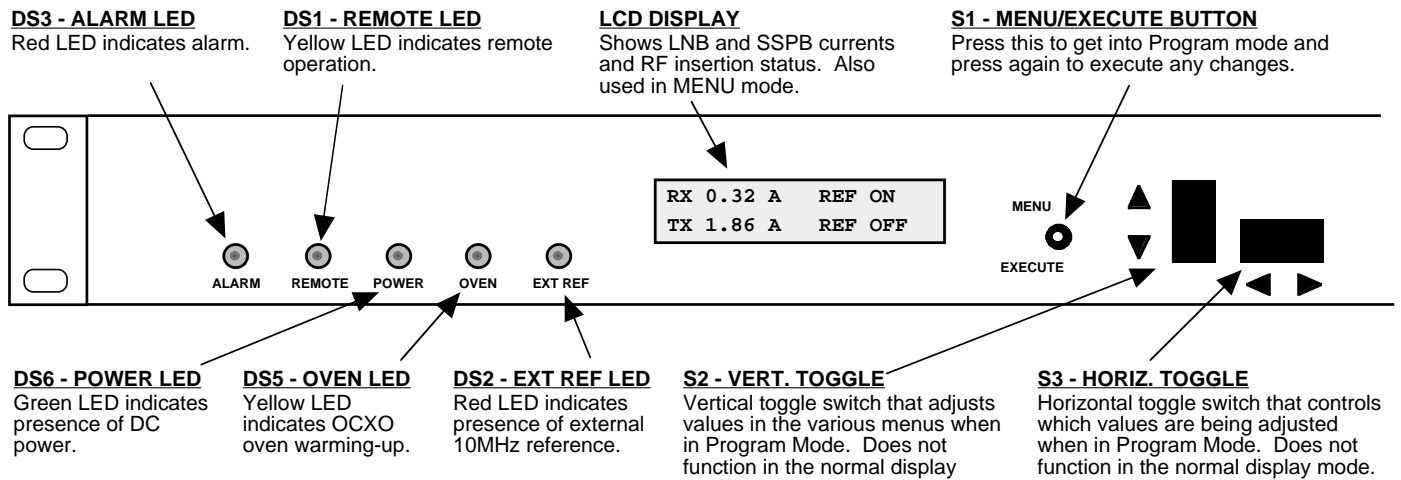

FIGURE 2.2 2099-17 Front Panel Controls and Indicators
6. Be sure DS1 (green, POWER) is on (Figure 2.2).
Alarm indications appear on the LED (see Figure 2.2).